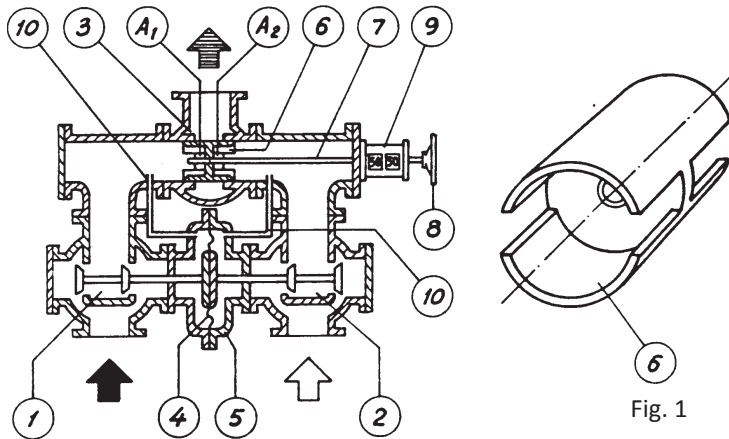

Fig. 1
The CBI Mechanical Blender [Fig. 1 overleaf] consists of two balanced regulating valves (1) and (2) with inlets for two components and outlets to the blending chamber (3) The valve discs are united with a stem carrying the diaphragm (4), mounted in the housing (5). A horizontal movement of the diaphragm will throttle one valve and simultaneously open up the other. In the blending chamber (3) the slide (6) can be moved horizontally by turning the threaded spindle (7) with the hand wheel (8).